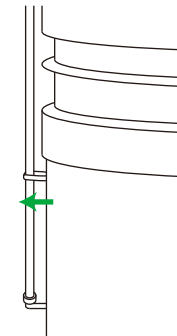

Figure 1
1. Prepare something to catch water (e.g., a bowl or bucket) and place it under the bucket. Then, remove the top of the water pipe from the upper buckle, as shown in Figure 1.